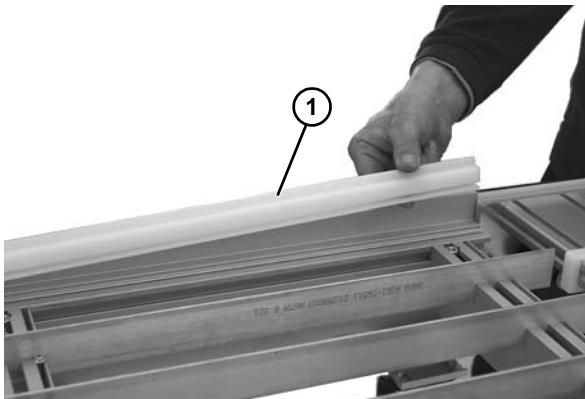

Figure 43
2. Remove outer top wear strip (Figure 43, item 1) from frame assembly.